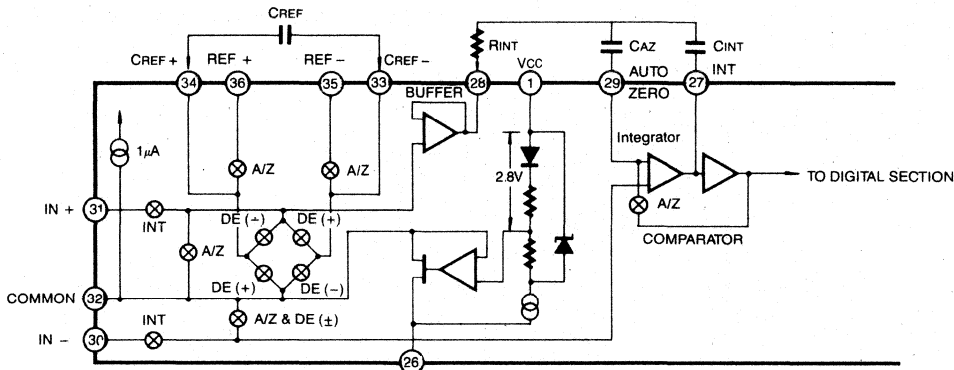

Fig. 3 Analog Section of KS7126
Fig. 3 shows the Block Diagram of the Analog Section for the KS7126. Each measurement cycle is divided into three phases. They are (1) Auto-zero (A-Z), (2) Signal integrate (INT) and (3) De-Integrate (DE).